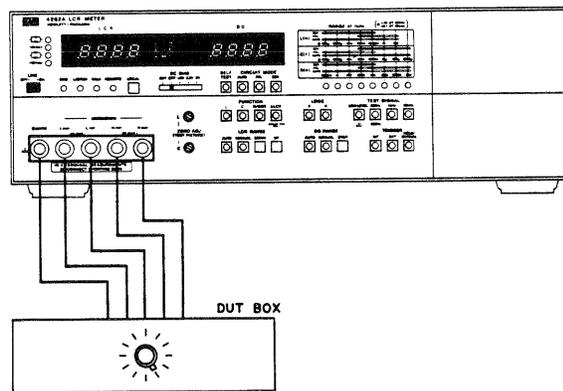

Figure 4-5 Inductance Accuracy Test Setup.
1. Connect Test Leads (HP P/N 16361-61605) between 4262A UNKNOWN terminals and HP 16361A DUT Box (see Figure 4-5). When TEST SIGNAL frequency is 10kHz, use HP 16362A in place of HP 16361A.